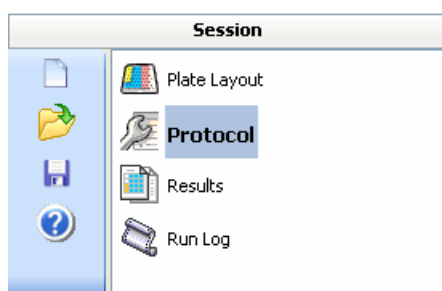

Figure 6-1. Available execution order types
- **Execution order** - Select the direction in which the steps are executed on the plate. It also sets the direction in which the points inside a well are measured in a multipoint measurement. The black dot designates the starting point and the arrows show the execution order (Figure 6-1). Use the up and down arrows to switch between the different options.
- **Execution order** - Select the direction in which the steps are executed on the plate. It also sets the direction in which the points inside a well are measured in a multipoint measurement. The black dot designates the starting point and the arrows show the execution order (Figure 6-1). Use the up and down arrows to switch between the different options. Use an execution order that is aligned to the defined measurement area(s).